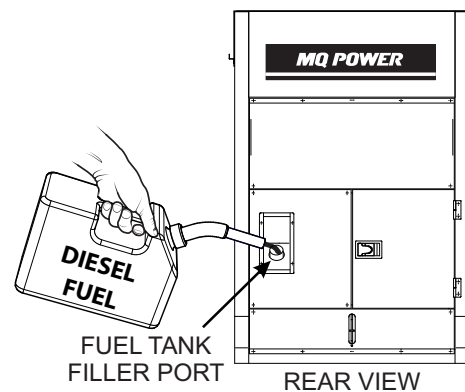

Figure 27. Fueling The Generator
2. Remove the fuel cap and fill the fuel tank as shown in Figure 27.